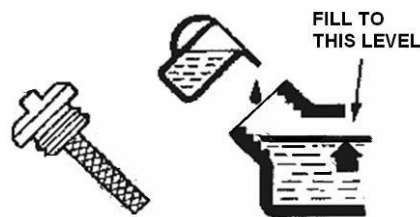

Figure 9- filling oil
3. Using a funnel, add the appropriate type and amount of oil into the crankcase. The crankcase is full when the oil level has reached the second thread from the lip of the opening (see figure 9).